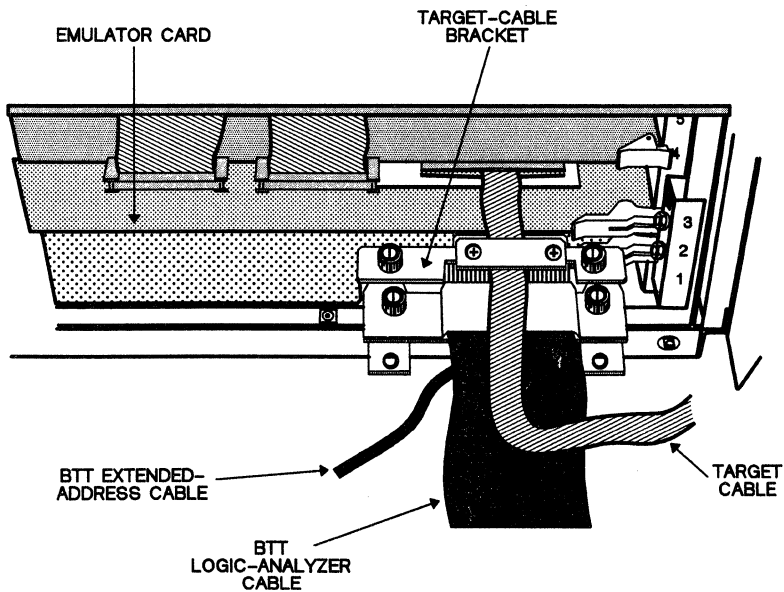

Figure 9-11. Emulator and Breakpoint/Trace/Timing Card Installation
- 5) With emulator target cable on top of logic-analyzer cable, attach target-cable strain-relief bracket to strain-relief adapter or logic-analyzer cable strain-relief bracket with two thumbscrews into the hexagonal standoffs (Figure 9-11).